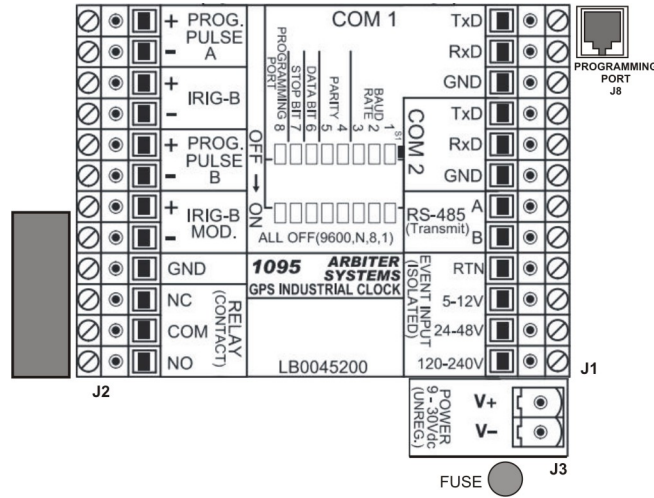

Figure 2.2: Connector Block Wiring
5. Connect the chosen wire pairs to the Connector Block and verify. See Figure 2.2.
Listed below are the meanings of the various connections on the connector block, and configuration methods. Use this section, including Figure 2.2, to identify and connect your chosen signal wires.
- **Event Input:** Three input ranges: 5 – 12 Vdc, 24 – 48 Vdc, 120 – 240 Vdc, and RTN. Inputs are isolated. See Figure 2.2.
- **IRIG-B MOD.:** Two terminals, marked “+” and “–”. 1 kHz sinewave at 4.5 Vpp, 3:1 AM modulation ratio. See Figure 2.2.
- **Relay Contacts:** Three terminals, marked NC, COM and NO (Normally Closed, Common, Normally Open). Conditions are when relay is de-energized (clock powered OFF). The information below gives the contact condition for two states: (1) Fault, or Power OFF, and (2) No Fault, or Power ON.
Connect the GND terminal on the left terminal block (see Figure 2.2) to one or more wires of the multi-conductor cabling that are connected to a station ground.
A user replaceable fuse pushes into the circuit board-mounted holder. Fuse by Little Fuse #370-1160, 250 V, 1.6 Amps. See Figure 2.2.
Caution: Verify polarity before connecting inlet power connections. While the Model 1095A/C is protected from reversed polarity of the inlet power, it will not operate if reversed. Note that the negative inlet lead is nearest the fuse. See Figure 2.2.
To verify communications, or to configure, use the Programming Port at J8 (RJ11 connector). See Figure 2.2 at the upper right. An accessory, Programming Cable Kit (part no. AS0067200), includes an RJ11 serial cable and DB9F to RJ11 adapter. see Section 1.3, to connect between a computer and the 1095A/C.